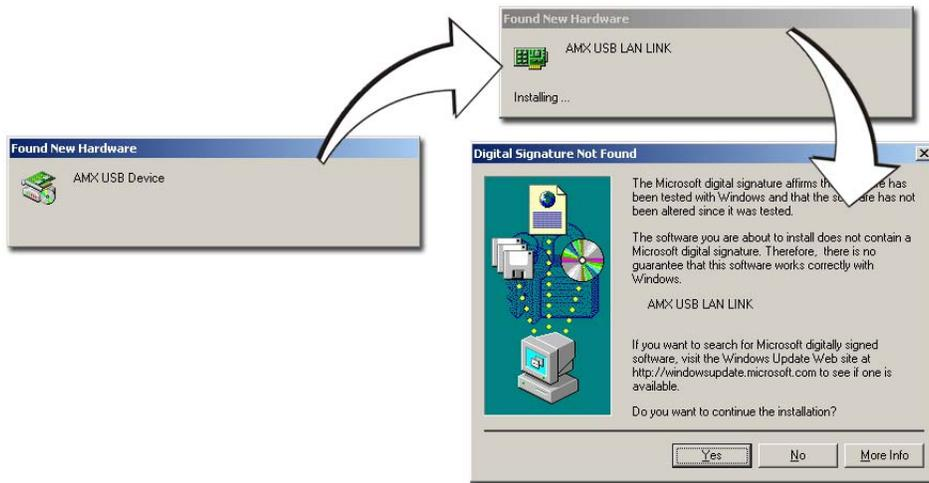

FIG. 51 USB driver installation popup window
- ONLY AFTER** the unit displays the first panel page, **THEN** insert the mini-USB connector into the Program Port on the panel. It may take a minute for the panel to detect the new connection and send a signal to the PC (*indicated by a green System Connection icon*). If this is your first time installing the USB driver, a USB driver installation popup window (FIG. 51) appears on the PC.